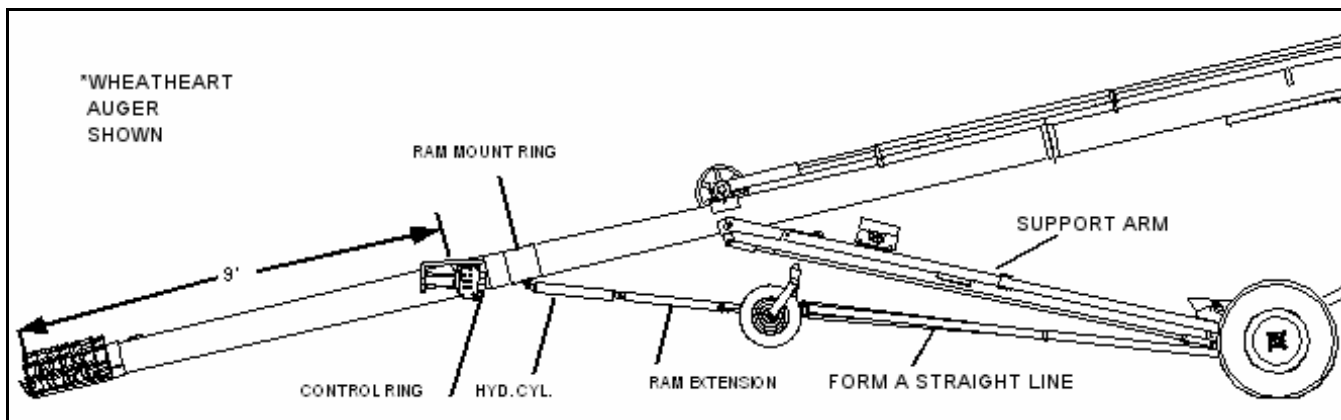

Figure 3.10 Control Ring Installation
6. In the location noted in Figure 3.10, bolt the control panel ring to the auger tube approximately 9' from the intake cage. Do not tighten the bolts yet.
**Note:** *The hydraulic ram is normally mounted to a separate ram mount ring, not the control ring (Figure 3.10). The only exception to this is if the straight line path from the axle to the tube intersects the control ring.*
7. Mount the ram mount ring to the tube as indicated ahead of the control ring; refer to Figure 3.10.
10. Elevate the V-frame, undercarriage pipes, and ram assembly to form a straight line (transport position) as shown in Figure 3.10. Tighten the control ring and ram mount ring bolts.